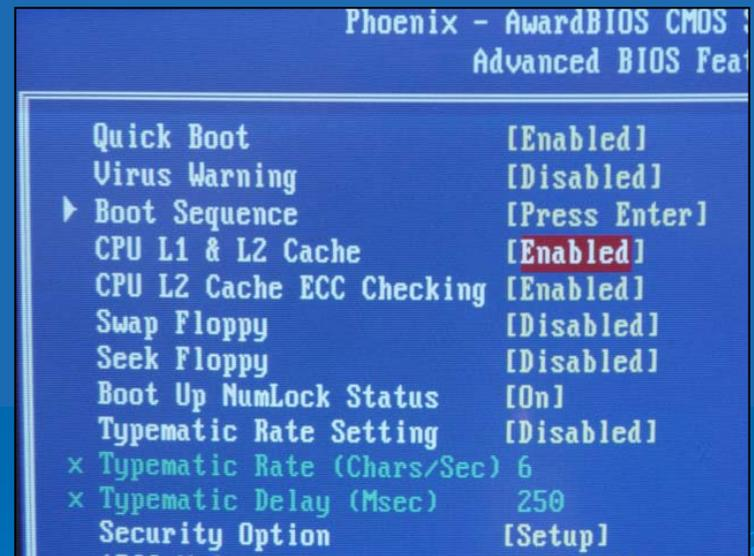

Fig 29-a
- Disable CPU internal cache (maybe listed in Bios as L1 & L2 cache (Fig 29-a))